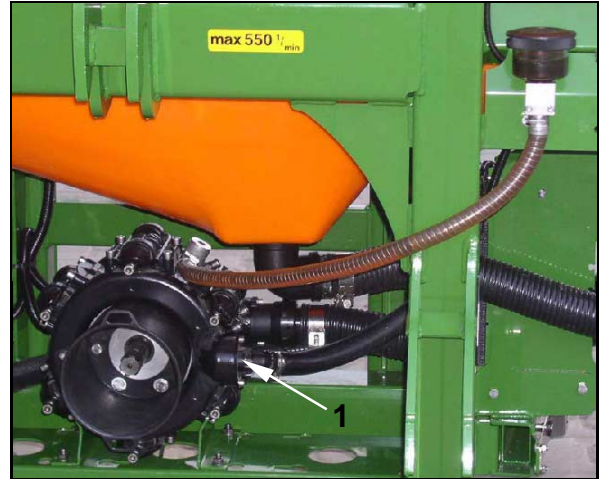

Fig. 216
9. Remove the pressure hose (Fig. 216/1) of the pump so that the remaining quantity of water can run out the pressure hose and VARIO-control-pressure side.